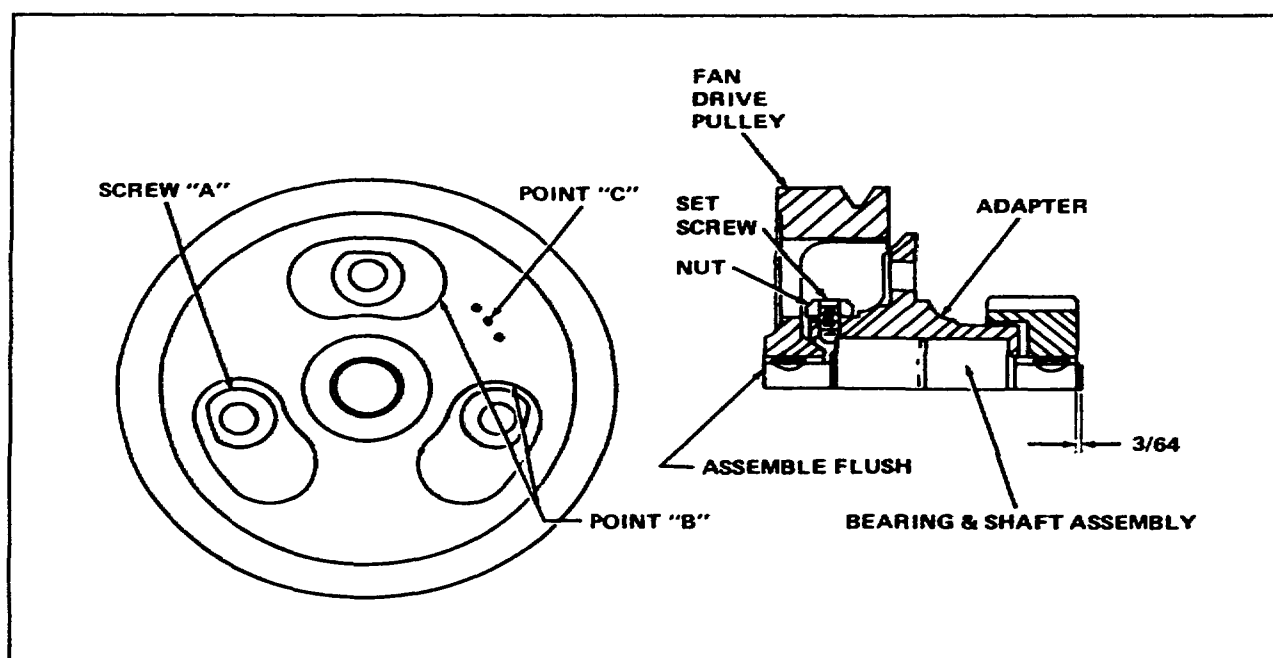

Figure 6-8. Fan Drive Pulley Assembly
**6-42. FAN DRIVE ASSEMBLY.** The fan drive is assembled and installed as follows (figure 6-8) :
3. Install two 3/8 x 2-1/2 inch screws (11) and one assembled washer 3/8 x 2-1/2 inch screw (9) and three washers (12) holding cover to front filler block.
4. Install 7/16 x 1-1/2 inch screw (5) with washer (6) in one dowel and 3/8 x 2-3/4 inch screw (8) and washer (7) in other dowel.
5. Install 3/8 x 2-1/2 inch screw (11) to lower right of crankcase, one 3/8 x 2-1/2 inch assembled washer screw (9) to upper left of crankcase and 3/8 x 1 inch screw (10) in remaining hole.
6. Install dial indicator to record far drive gear backlash at points "B", figure 6-8.